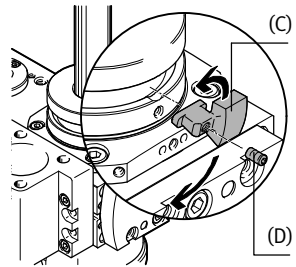

Fig. 9
- Tighten the threaded pins (D → Fig. 9) lightly at first. After final positioning, tighten (tightening torque: 0.7 Nm).
- Screw proximity sensor (E) into the sensor bracket (F).
- Also move the trip cams by 90° in the same direction (→ Fig. 9 in chapter 5.4 Electrical installation).